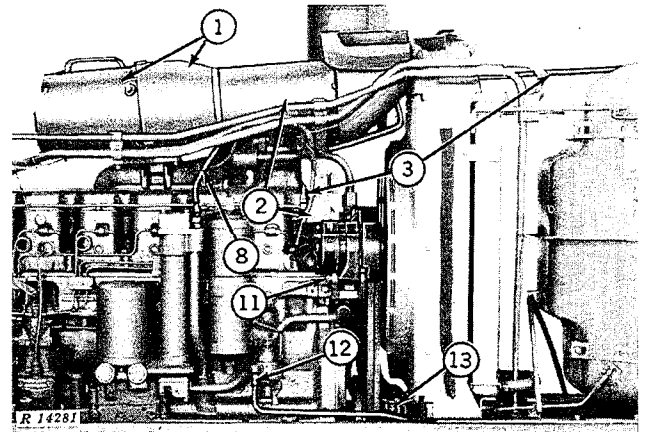

Fig. 19-Right Side of Engine
1. Remove air cleaner element cans, and air cleaner body (Figs. 19 and 20).
2. Remove pre-cleaner and hydraulic pipe support (Fig. 19).